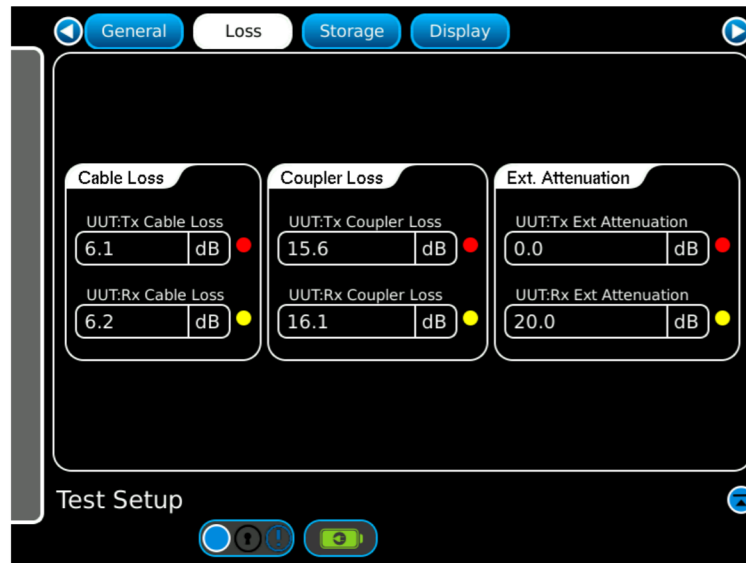

Figure 1-6 Loss Setup Screen
13. Locate the cable loss value listed on the cable connected to the UUT:TX port (Red) and enter this value as **Cable Loss – UUT:TX Cable Loss** (Red). See Figure 1-6.
14. Locate the cable loss value listed on the cable connected to the UUT:RX port (Yellow) and enter this value as **Cable Loss – UUT:RX Cable Loss** (Yellow) See Figure 1-6.
15. For coupler testing, enter 20 dB as **Ext. Attenuation – UUT:RX Attenuation** (Yellow) and for direct connect testing, enter 40 dB as **Ext. Attenuation – UUT:RX Attenuation** (Yellow). See Figure 1-6.
16. Locate the coupler with the red UUT:TX label and then locate the Loss Value label on the coupler. Enter the Coupler Loss Value as **Coupler Loss – UUT:TX Coupler Loss** (Red). See Figure 1-6.
17. Locate the coupler with the yellow UUT:RX label and then locate the Loss Value label on the coupler. Enter the Coupler Loss Value as **Coupler Loss – UUT:RX Coupler Loss** (Yellow). See Figure 1-6.